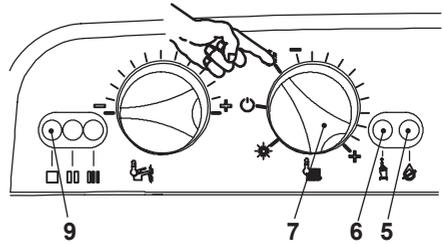

Fig. 7.6
- Turn the function selector 7 as in Fig. 7.6. The appliance operation light 9 will flash every 2 seconds.